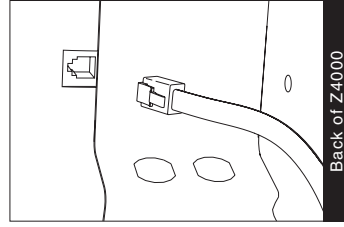

Fig. 1
6. When the transformer powers up, watch the transformer’s LED display. The transformer will display 40 00 (Fig. 1) in the volts window and 01 23 or 01 24 in the amps window. Approximately 3 seconds later the volts window will go blank and the amps window will briefly display PG PG (Fig. 2). While this is displayed, press the Panic Stop button, and you should see --- in the volts window (Fig. 3). Immediately following this, the transformer will display 0.0 0.0 in the volts window and RC RC in the amps window (Fig. 4). You now have remote control of Track 1 on Z-4000 1.